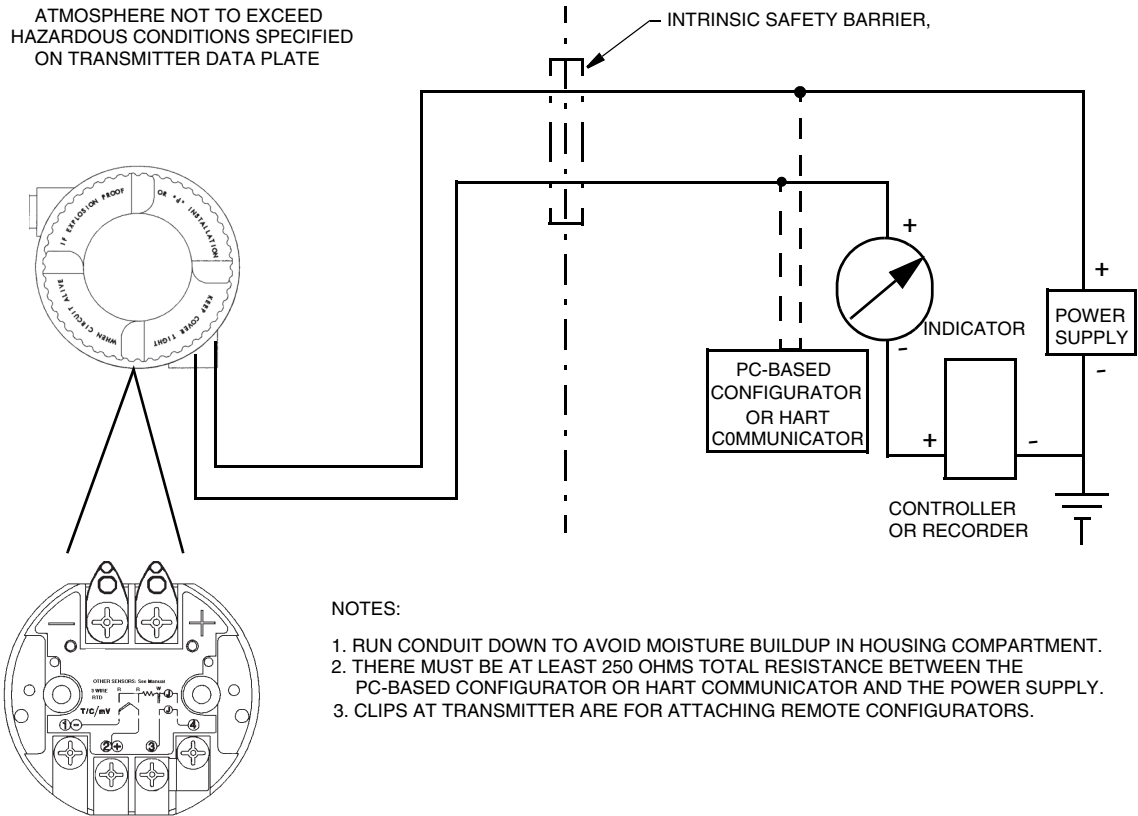
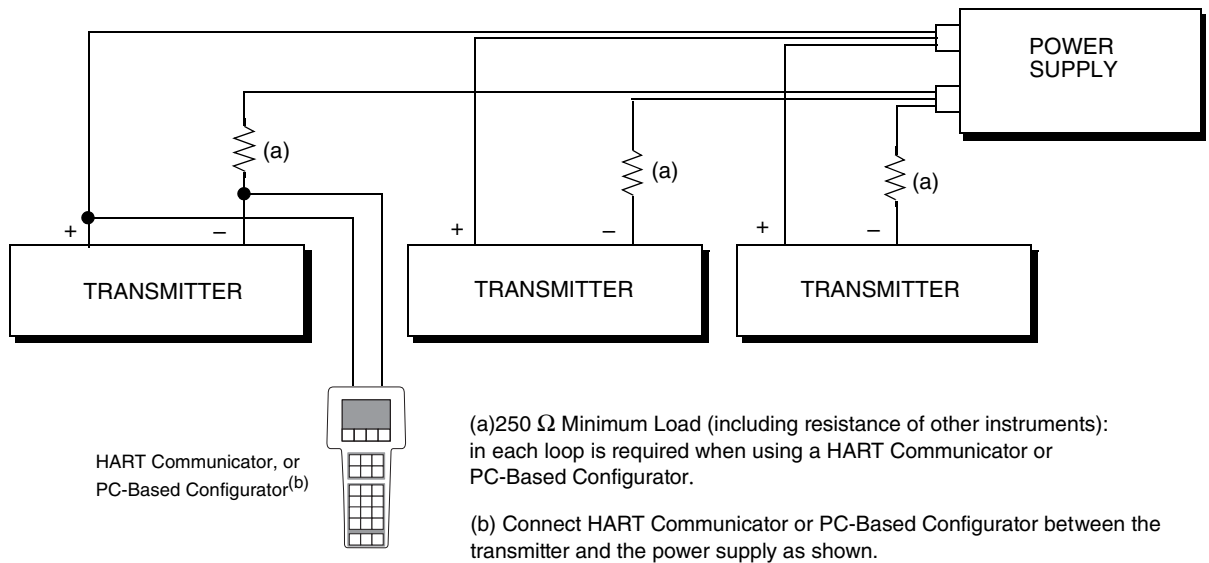

Figure 15. Typical Transmitter Wiring with a 4 to 20 mA Output
Figure 16. Wiring Several 4 to 20 mA Transmitters to a Common Power Supply
2. Run signal wires (0.50 mm² or 20 AWG, typical) through one of the transmitter conduit connections as shown in Figure 15. Use twisted pair to protect the 4 to 20 mA output and/or remote communications from electrical noise. Maximum recommended length for signal wires is 1800 m (6000 ft). Screened (shielded) cable may be required in some locations.
4. Connect receivers (such as controllers, recorders, indicators) in series with power supply and transmitter as shown in Figure 15.
6. If wiring additional transmitters to the same power supply, repeat Steps 1 through 5 for each additional transmitter. The setup with multiple transmitters connected to a single power supply is shown in Figure 16.
7. The remote configurator can be connected in the loop (subject to hazardous location restrictions) as shown in Figure 15 and Figure 16.